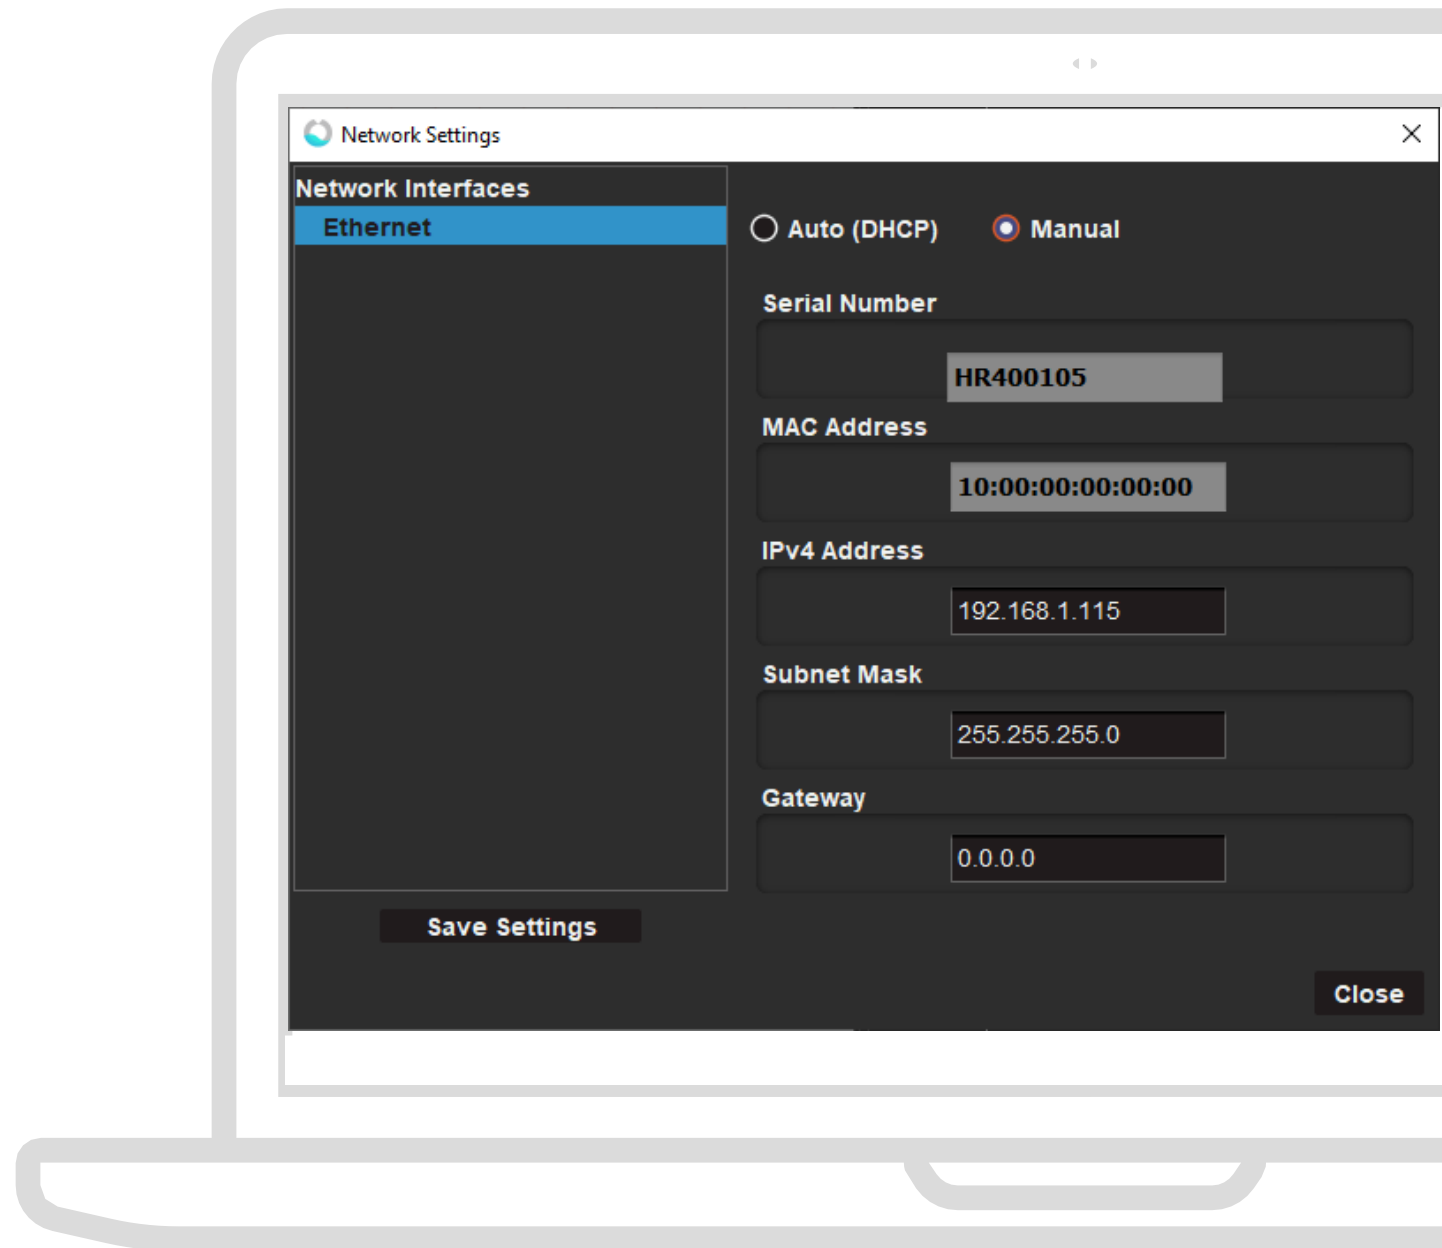

Figure 2 Network Settings window showing Manual configuration parameters
6. Right click on the spectrometer icon and then click on the “Network Setup” option from the drop-down menu. This will open the Network Settings window. An example Network Settings window is shown in Figure 2.